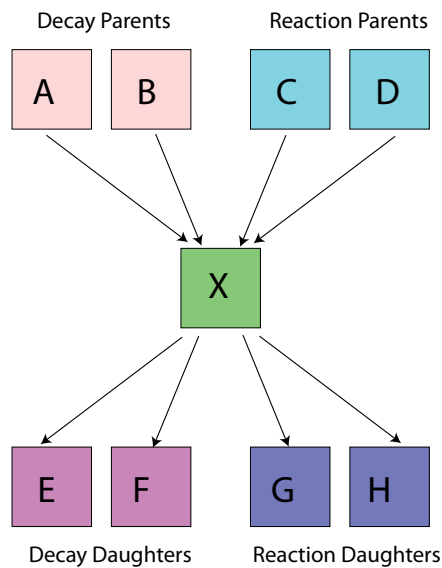

Figure 6.2: The general case of a ZAI object X in a tree with multiple reaction/decay parents and daughters.
- The global nuclear tree has a vector of all the physically possible ZAI objects, representing the different isotopes, including long-lived isomers of the same isotope, as an attribute. Each ZAI object contains vectors of pointers to other ZAI which are either its reaction daughters or its decay daughters. When a particular tree is extracted, the parental relations are also determined (see figure 6.2). It is then possible to follow the tree by jumping from ZAI to ZAI, and to understand for each ZAI object all the ways it can be created and destroyed.